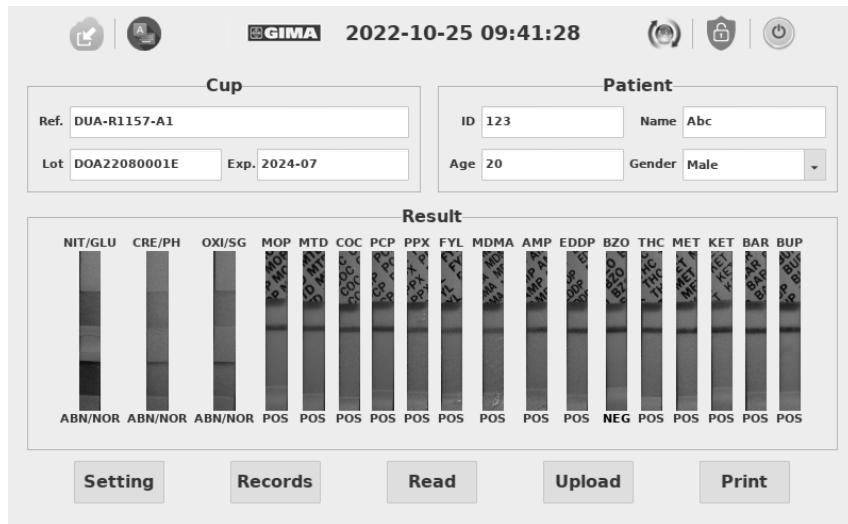

Fig 20
Step 4: When the process reaches 100%, the test result will display on the screen as Fig 20.